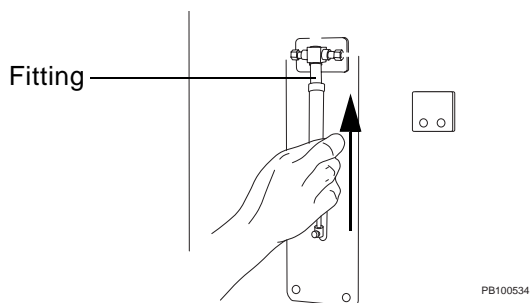

Figure 3-26 Attaching a Syringe to the AFC 2000
Before using the AFC 2000 Robotic Sample Handling Device as an integrated autosampler, attach a syringe to the syringe pump on the AFC 2000 (Figure 3-26). Use the syringe size you select when configuring the AFC 2000 (see Figure 4-28).
5. Mount the new syringe on the plunger shaft and pull up on the syringe body until it reaches the fitting (Figure 3-26).